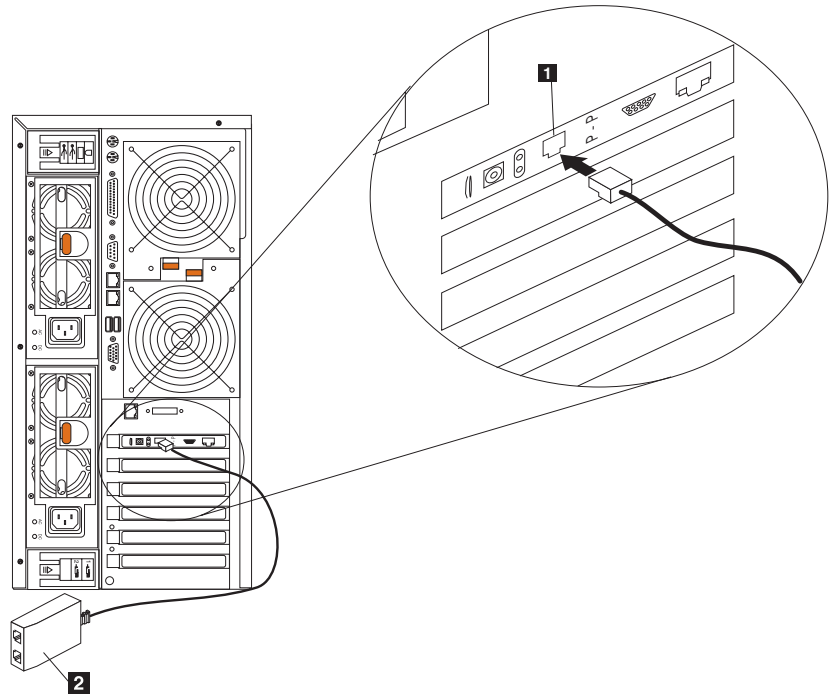
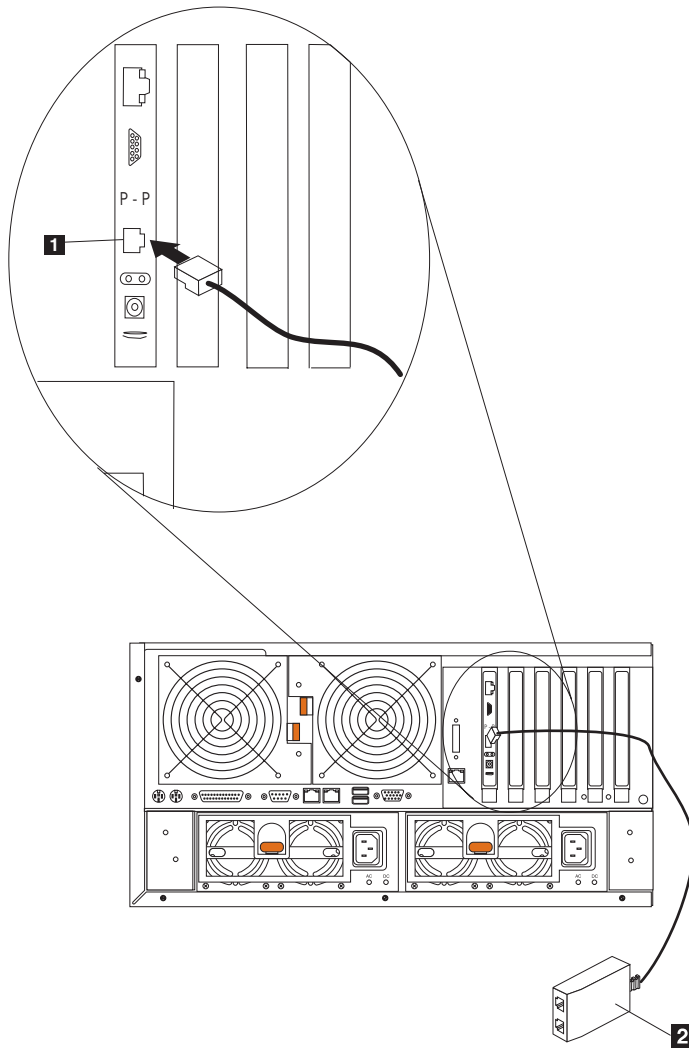

Figure 109. Connecting the ASM interconnect module to the Remote Supervisor Adapter (Model 25T)
Figure 110. Connecting the ASM interconnect module to the Remote Supervisor Adapter (Model 25T with the rack-mount conversion feature)
1. Connect the ASM Interconnect module **2** to the Remote Supervisor Adapter ASM Interconnect port **1**. This port is labeled *P - P* (for *peer-to-peer*) on the back panel of the adapter. Figure 109 and Figure 110 on page 178 show the Remote Supervisor Adapter installed in the Model 25T.